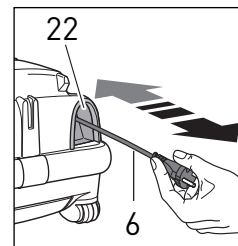
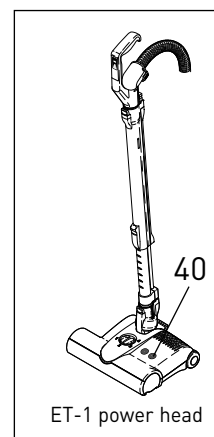
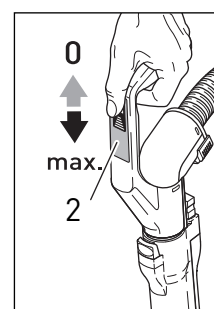
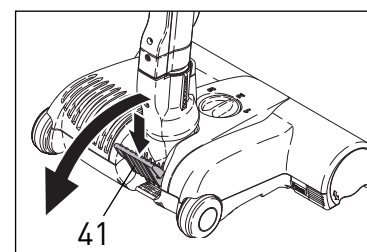

Figure 1
Figure 8
Figure 9
Figure 10
Starting The Machine - Figures 1, 2 & 3
Starting The Machine and Suction Control - Figures 1, 2, 8, 9 & 10
Before turning on your canister, make sure that the vacuum handle is in its upright locked position (figure 8).
1. With the canister main power control knob (9) in the OFF position, and the power control slider on the handle (#2, figure 9) in the OFF position, pull the power cord out from the base of the canister (figure 1). The power cord should be unwound from the cable reel at least two thirds of its length. **Note:** do not over-extend the cord.
4. Slide the Power Control Slider (#2, figure 9) toward the MAX position. It will move freely between 0 suction and MAX suction. Set the slider to the suction desired. Release the foot pedal (#41, figure 10) on the ET-1 power head.
Operating The Machine - Figure 10
When the power head is on with the handle in the upright locked position (see figure 8 above), the brush roller will not spin.
To release the ET-1 power head from the upright locked position, press down on the foot pedal, (#41, figure 10) lower the handle into the normal operating position and push the button on the top of the power head (#40, figure 8) to engage the brush roller. The green light on the power head will illuminate.